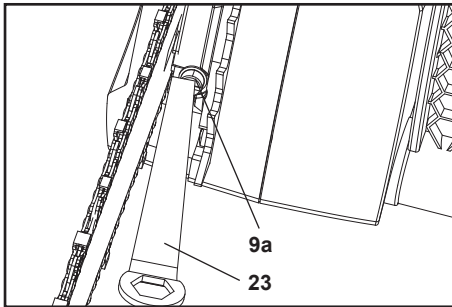

Fig. 2b
3. Turn the tension screw (9a) until the chain 'tie straps' are just touching the bottom edge of the guide bar (4) (Fig. 2b, 2c).